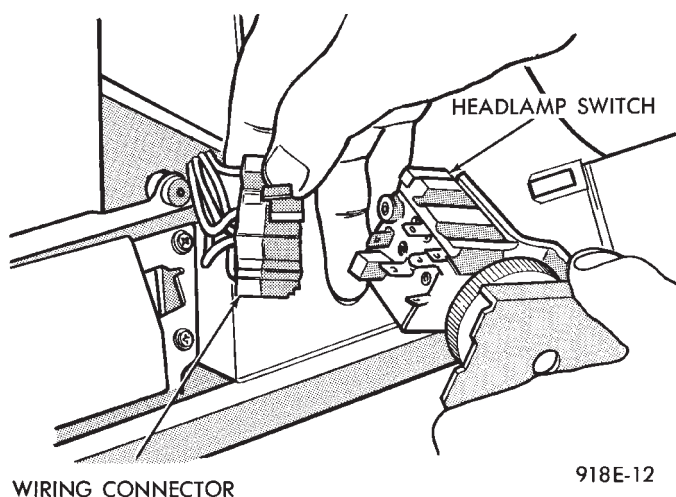

Fig. 42 Headlamp Switch Wiring Connectors
- (3) Pull headlamp/foglamp switch mounting plate rearward. Disconnect wiring connectors from headlamp switch and foglamp switch pigtail (Fig. 42).